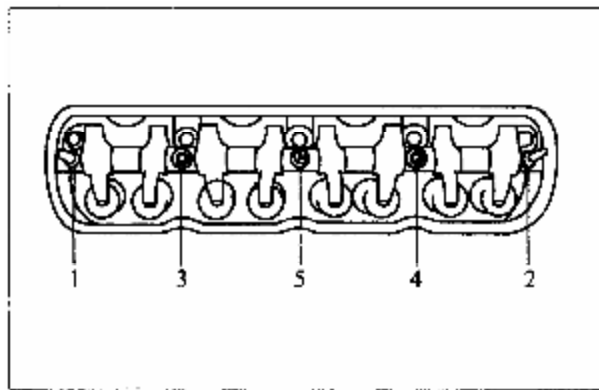

Figure 3-3 Sequence for Disassembly of Rocker Arm Bolts
3.1.2 Follow the sequence indicated in figure 3-3 to disassemble the rocker arm shaft, unscrew the bolts and nuts of rocker arm shaft in 2~3 times to avoid breaking off of rocker arm shaft and damage the bolts.
Follow a sequence that is reversed to these indicated in figure 3-3 to assemble the rocker arm shaft assembly, tighten the bolts and nuts in 2~3 times. The final tightening torque is 25~32N·m.